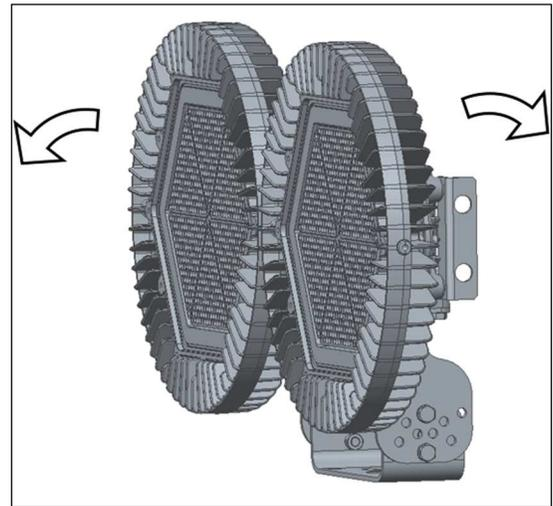

Fig.4
4. Aim light fixture to desired angle [Fig.4]